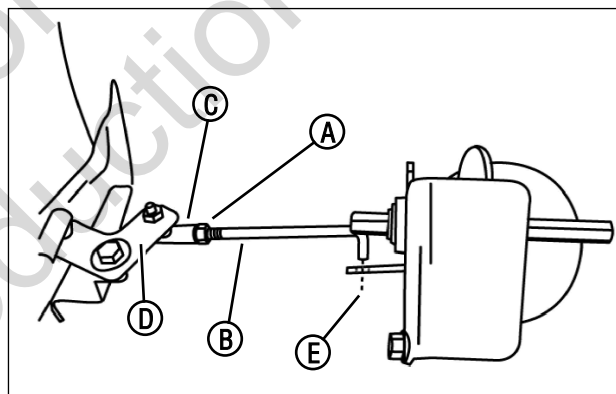

Figure 28: Adjusting the transfer rod
- Loosen the jam nut (A, Figure 28) securing the transfer rod (B) to the ball joint (C) on the pivot bracket (D).
- Turn the rod in or out of the ball joint until the end of the rod aligns with the hole (E) in the driven disc assembly from which the rod was removed.